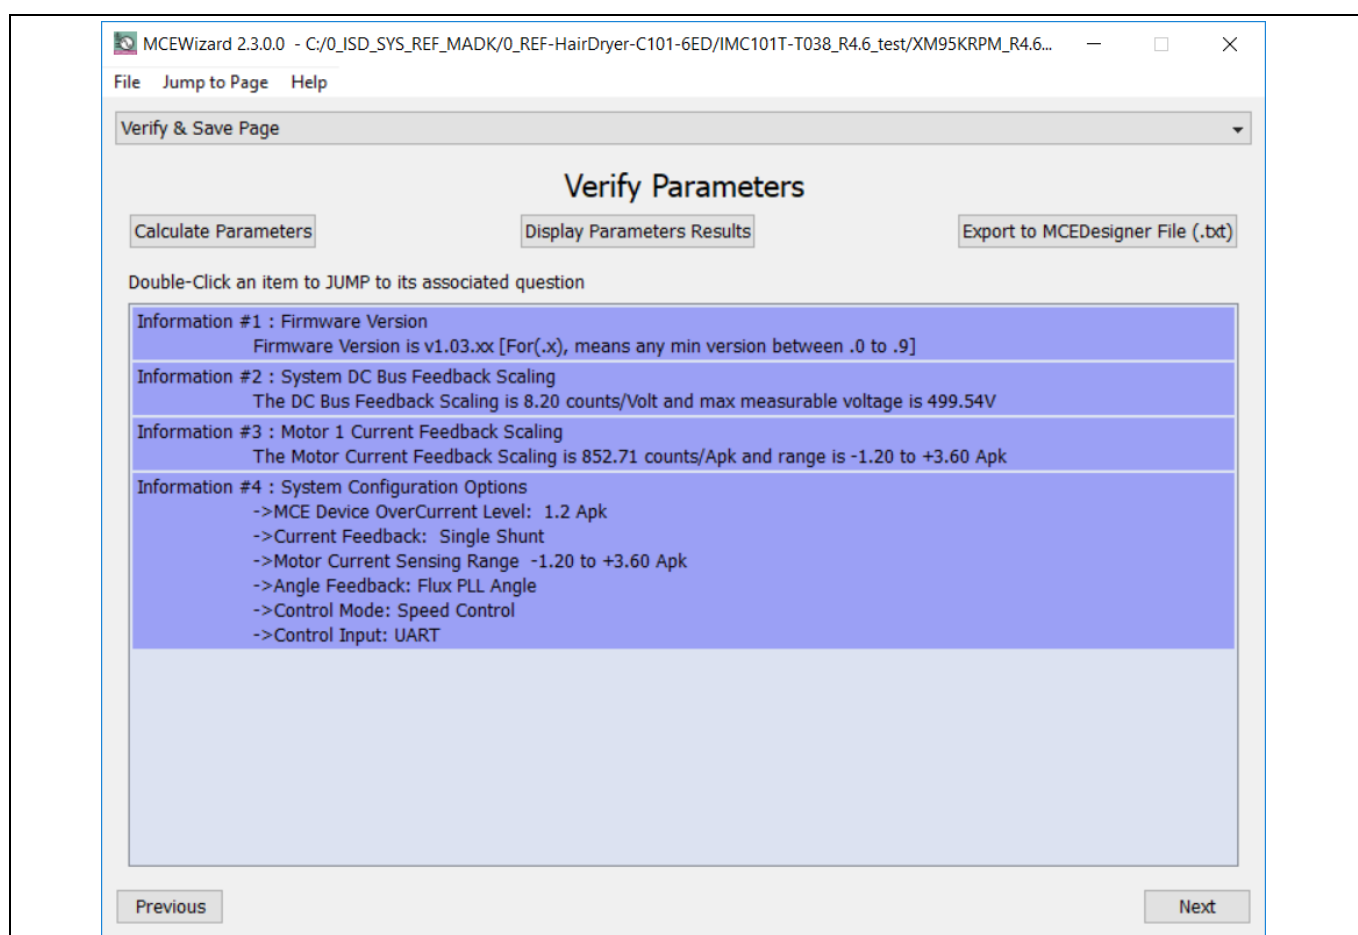

Figure 6 MCEWizard Verify and Save page
3. After system and operating parameters are set, go to the "Verify & Save Page" and click on "Calculate Parameters" button. If no errors are reported, then save the drive parameter set into your project directory by clicking "Export to MCEDesigner file (.txt)" (Figure 6); if an error is detected, double-click on the error message (highlighted in **RED**) and adjust the related parameter. The saved drive system parameter file will be later used by the MCEDesigner in step 9.